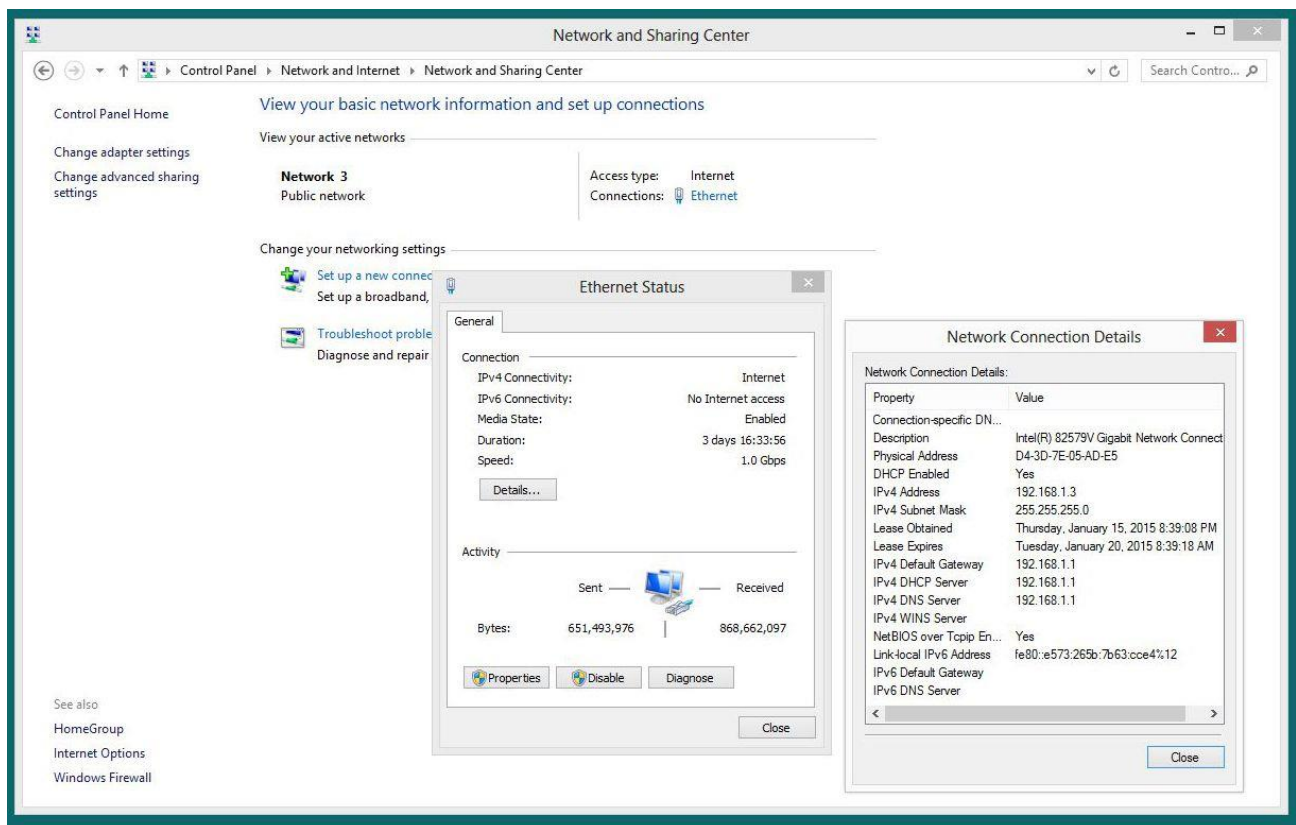

FIGURE 4.15 – PC/LAPTOP LAN INFORMATION
- 2) You will see the Ethernet IP and subnet mask. Our IP address is 192.168.1.3. Our subnet mask is 255.255.255.0 and Default Gateway is 192.168.1.1. Your information will be different. (SEE FIGURE 4.15).